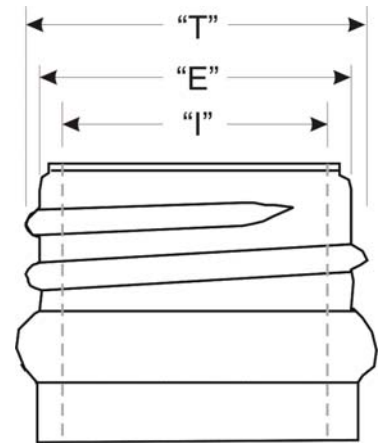

Figure 3: Finish dimensions
- For plug inspection image acquisition is performed using on-axis directional diffuse light and a high resolution camera with telecentric optics mounted above the rotating container. The FleX T vision plug inspection is capable of inspection for min and max “I” only (refer to Figure 3). It is not capable of dual-step plug gauging often required for corkage bottles. Dual-step plug gauging can be performed only with the mechanical plug/ring gauging option.
- For ring inspection, image acquisition is performed using diffuse back light (same light source that is used for dip inspection) and a high resolution camera to measure “E” and “T” dimensions (refer to Figure 3) of the container’s finish as it rotates in the station.